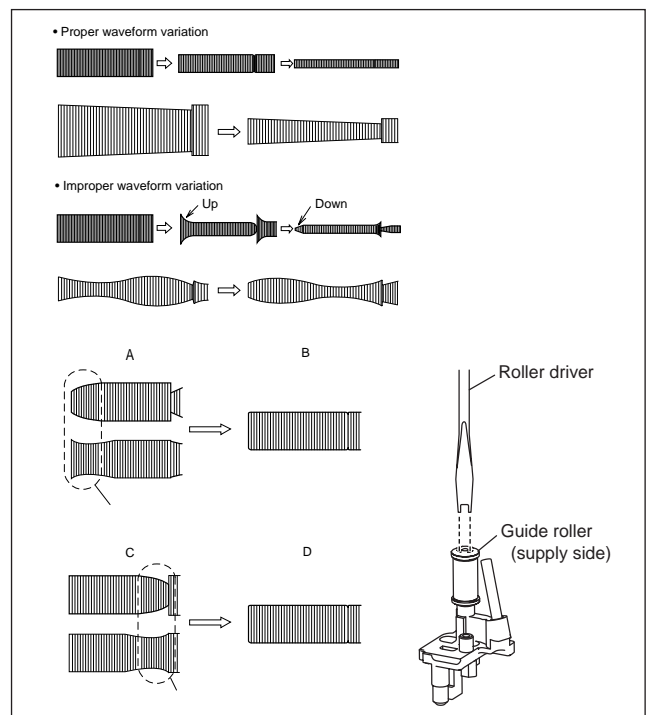

Fig. 3-2-2b
- Apply the external trigger signal to D.FF (E), to observe the V.PB FM waveform at the measuring point (D).
- Make sure that there is no significant level drop of the V.PB FM waveform caused by the tracking operation, with its generally parallel and linear variation ensured. Perform the following adjustments when required. (See Fig. 3-2-2b.)
- Reduce the V.PB FM waveform by the tracking operation. If a drop in level is found on the left side, turn the guide roller of the pole base assembly (supply side) with the roller driver to make the V.PB FM waveform linear. If a drop in level is on the right side, likewise turn the guide roller of the pole base assembly (take-up side) with the roller driver to make it linear. (See Fig. 3-2-2b.)